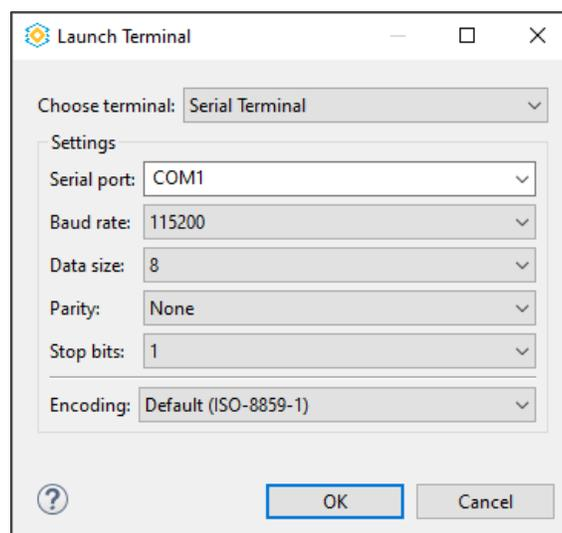

Figure 3.45. Launch Terminal Dialog 1
2. In the **Terminal** view, click the **Open a Terminal** icon . The **Launch Terminal** dialog opens (Figure 3.45).